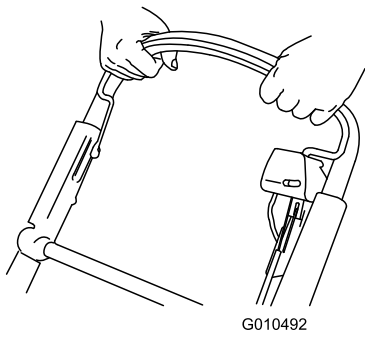

Figure 23
2. Hold the blade control bar against the handle (Figure 23) engaging the blade.